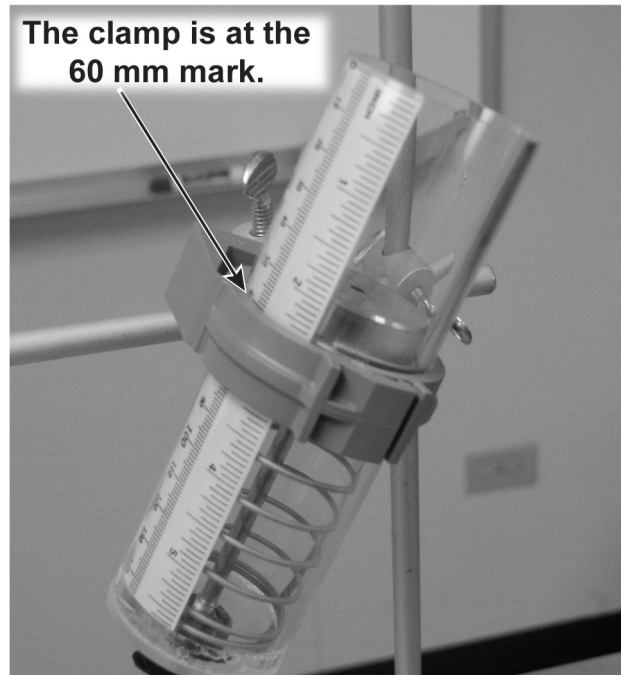

Figure 12
- ❑ 5. Clamp the projectile apparatus at the 60 mm mark of the scale as shown in Figure 12.